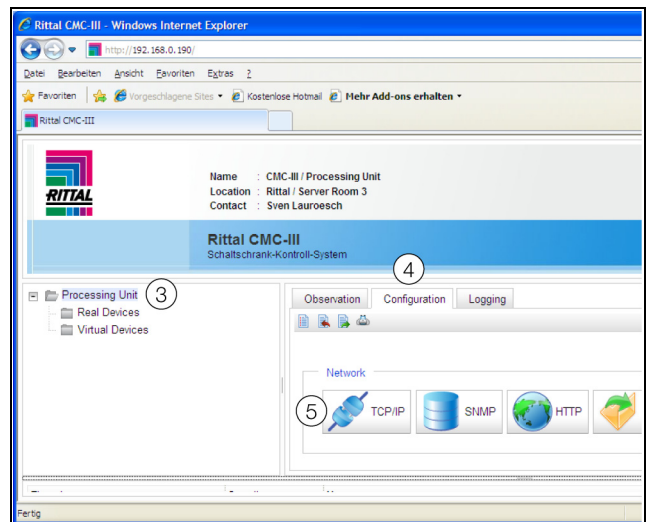

Fig. 13: Customising the TCP/IP settings
The overview page of the device appears (fig. 13).
- Click the **Processing Unit** entry in the left-hand sub-area of the overview window (fig. 13, pos. 3) and the **Configuration** tab in the right-hand subarea (fig. 13, pos. 4).
- Click the **TCP/IP** button in the **Network** group frame (fig. 13, pos. 5).